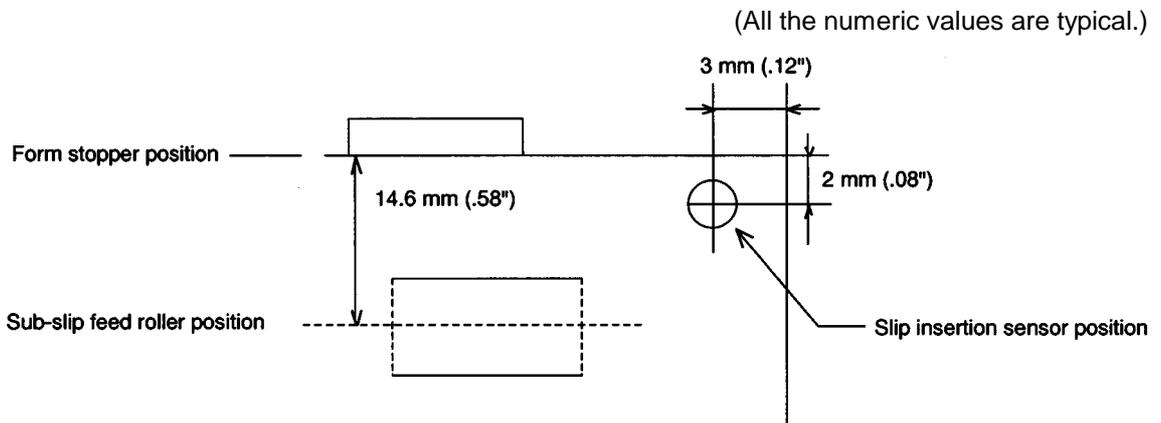

Figure 1.7.2 Slip Insertion Sensor Position
- Since the slip insertion sensor uses a photosensor, do not use paper that has holes at the sensor position or is translucent (refer to Figure 1.7.2).